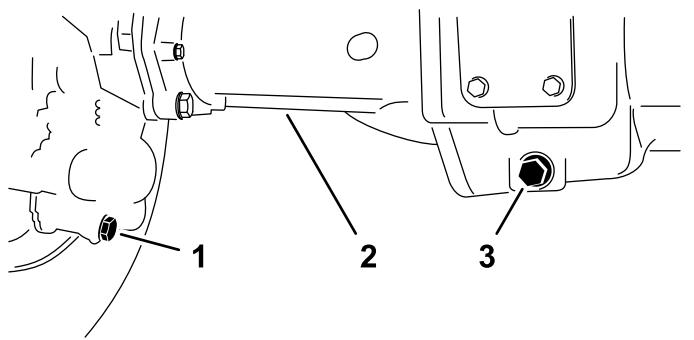

Figure 133
2. Clean the area around the 3 drain plugs (Figure 133)—1 at each bevel-gear case (outboard of the axle housings) and 1 in the center-gear case.
3. Remove each drain plug (Figure 133) and allow the oil to drain into a drain pan.